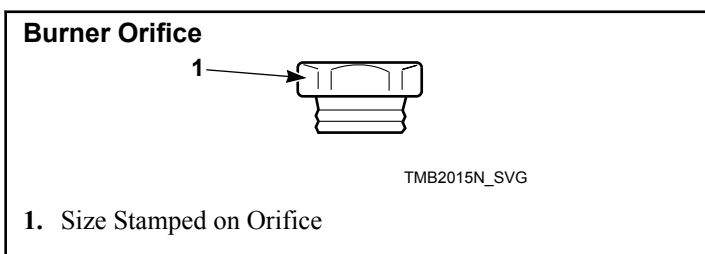

Figure 17
3. Install the new, correct burner orifice(s). Refer to *Figure 17* and *Table 1* . Torque each to 9 – 10 Nm.
4. Reinstall spud holder assembly to gas valve, making certain burner orifice(s) are in line with burner tube opening. Refer to *Figure 17* .